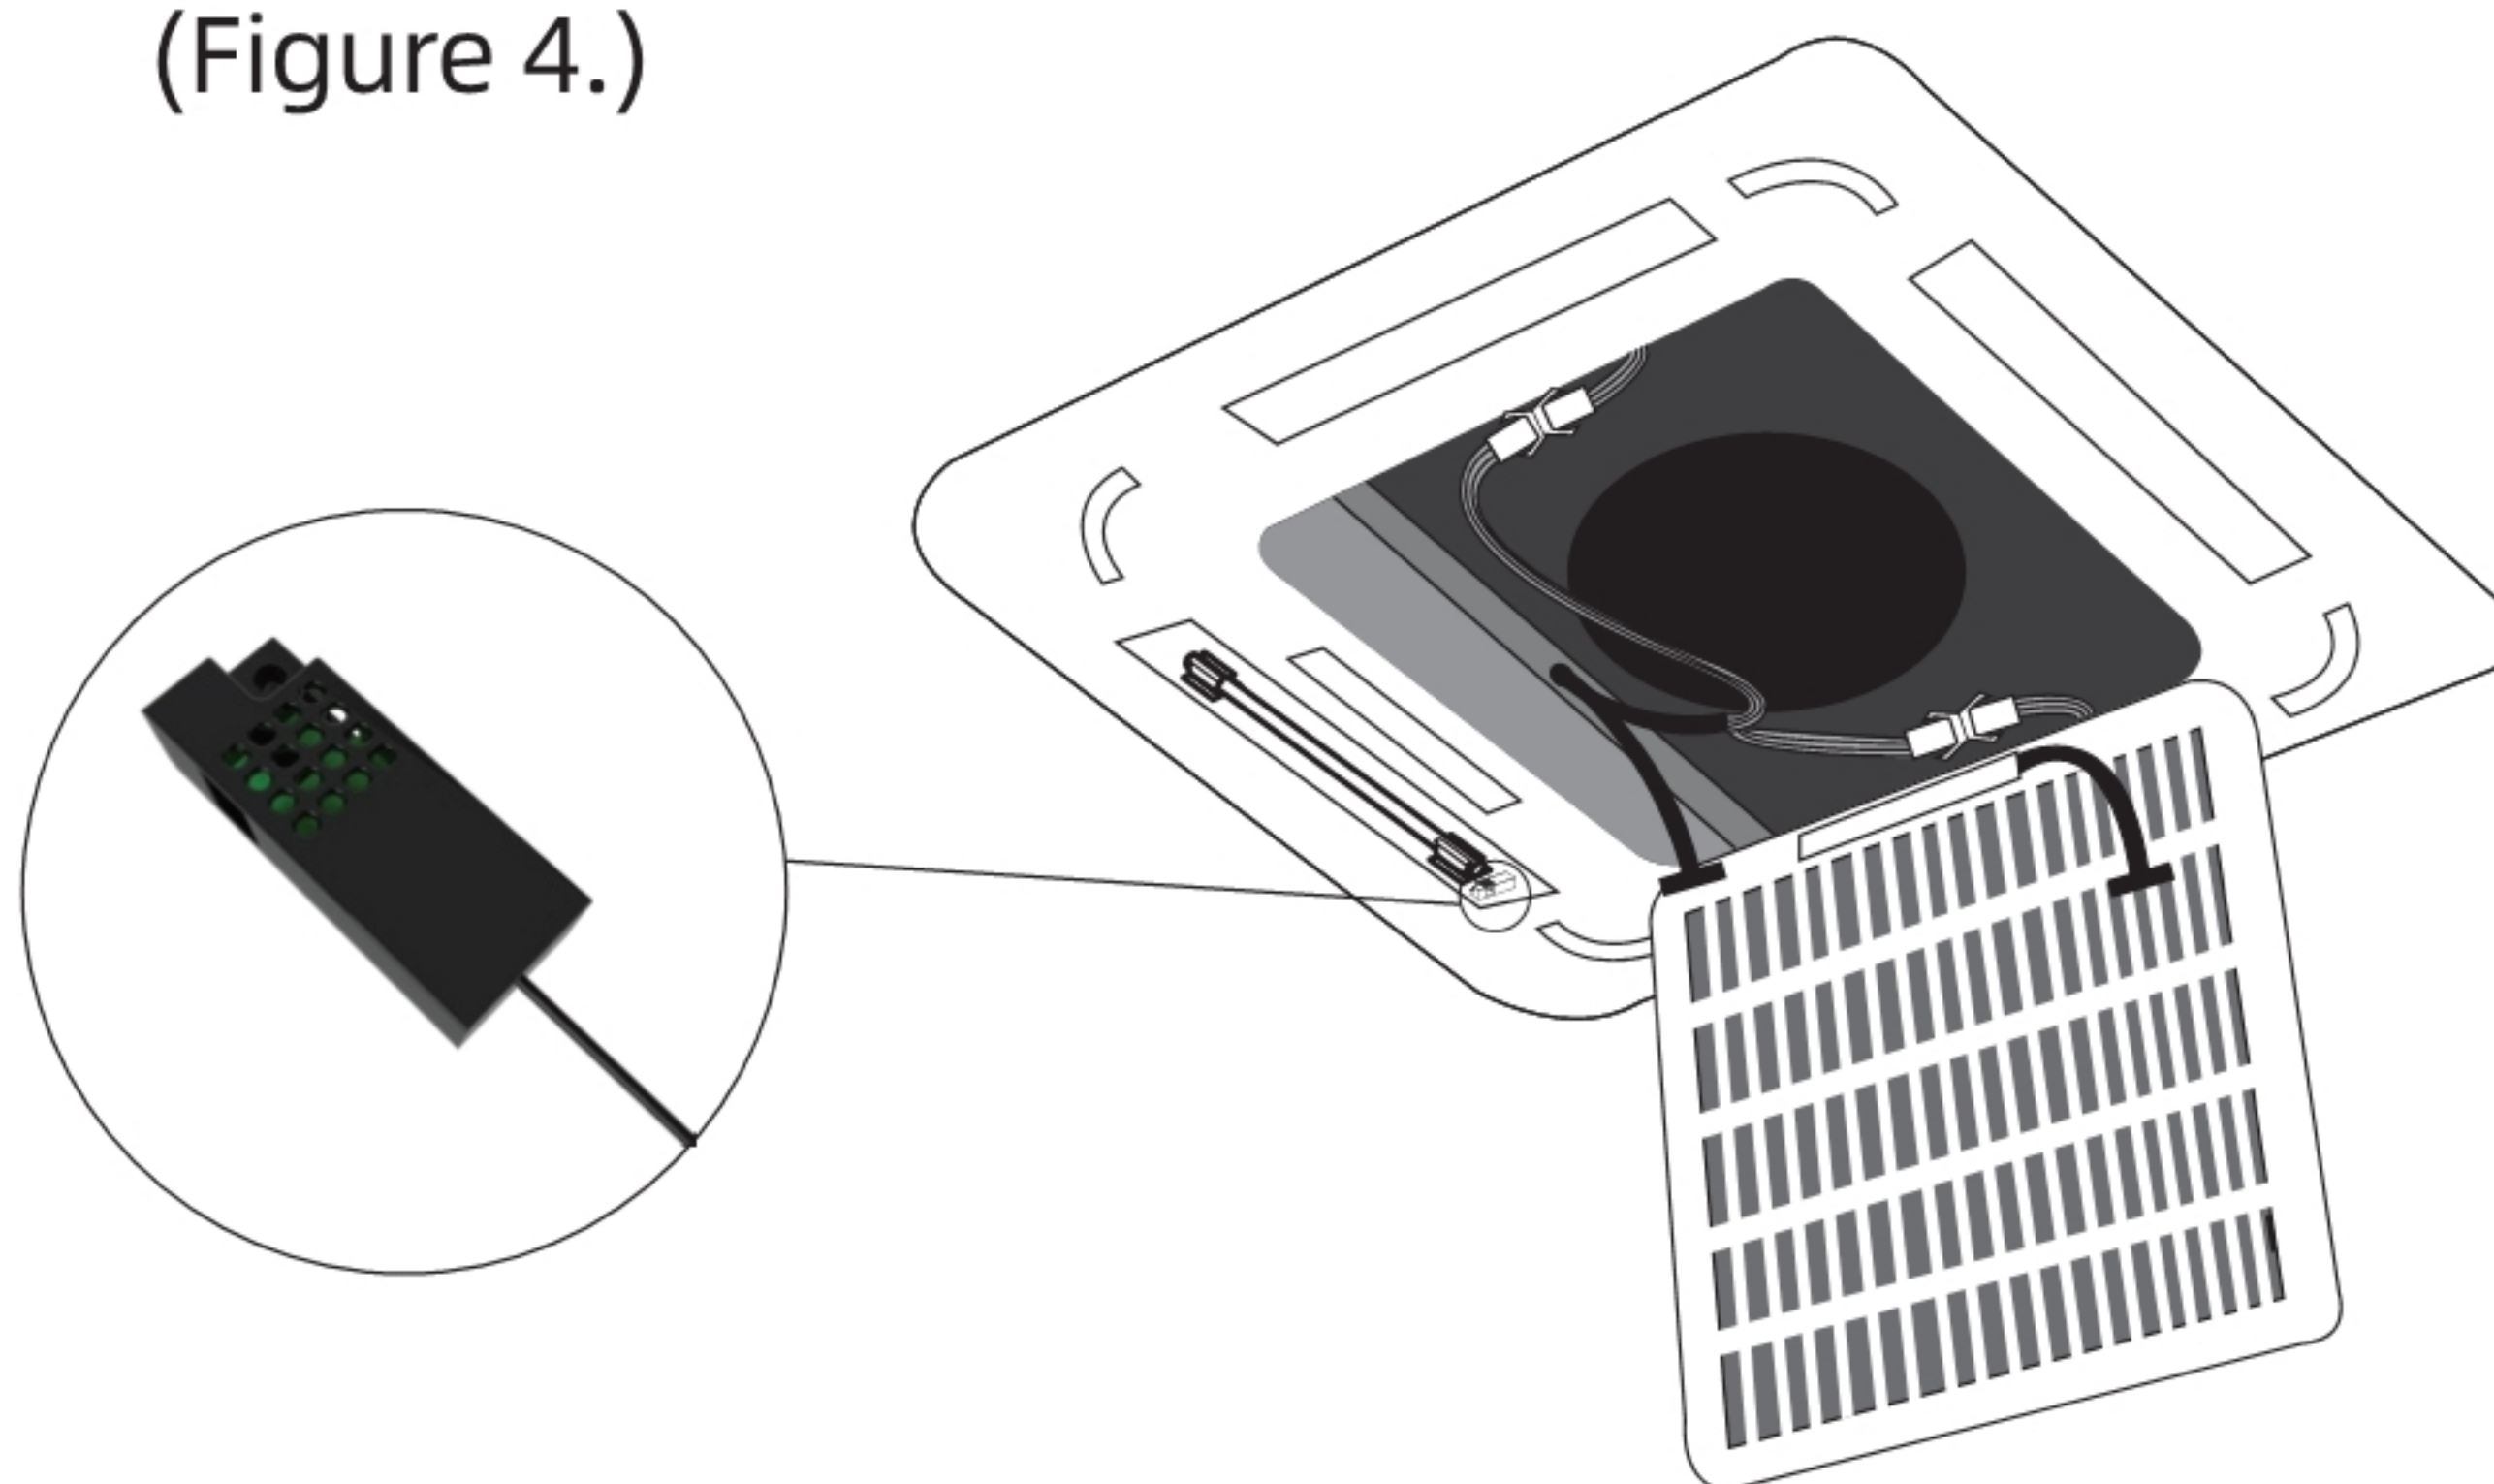

Figure 4.
- 4 Stick the airflow sensor on the air supply outlet with 3 M tape. (Figure 4.)